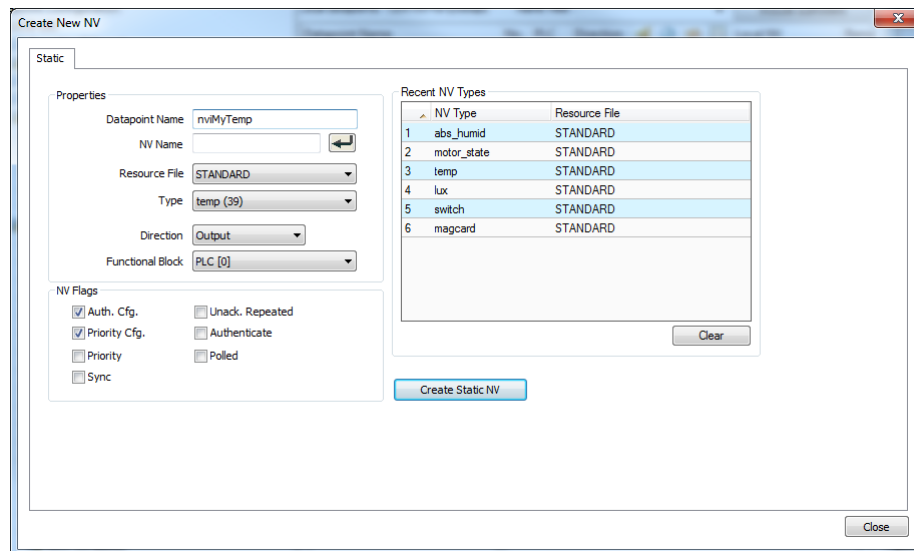

Figure 115: Create a static NV manually
2. Right-click in the data point list and select **New Datapoint...** in the context menu. This opens the NV creation dialog as shown in Figure 115.